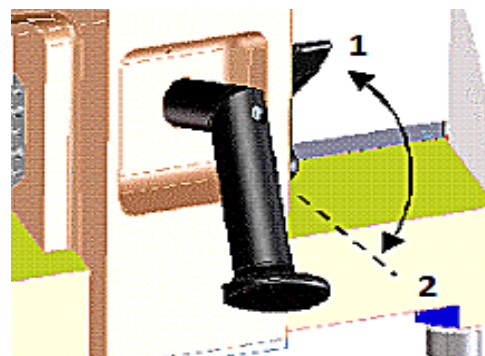

Fig 4
- Swivel the locking lever from the upper position Fig 4 (1) into the lower position Fig 4 (2).
- Swivel the lever from the lower position Fig 4 (2) into the upper position Fig 4 (1) until the red mark cannot be seen anymore.